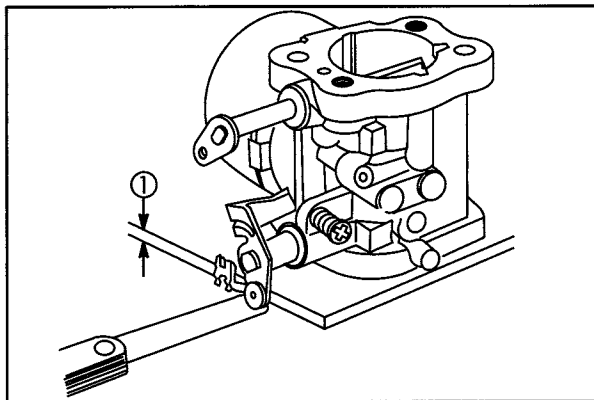

Fig. 21
1. Lay carburetor on flat surface and check throttle and choke shaft clearance (1) as shown, Fig. 21.